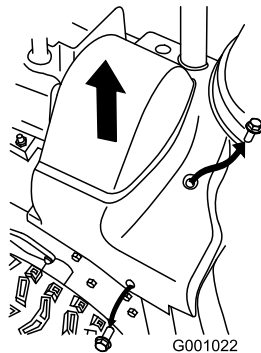

Figure 46
- Lift up the right side of the belt cover (Figure 46).